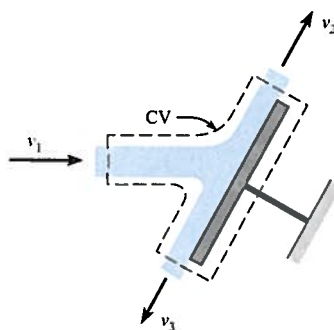

FIGURE 6.13
A **vane** is a structural component, typically thin, that is used to turn a fluid jet (Fig. 6.13). A vane is used to idealize many components of engineering interest. Examples include a blade in a turbine, a sail on a ship, and a thrust reverser on an aircraft engine.
- **Tip 2.** Let each momentum flow equal $\dot{m}v$. For example, in Fig. 6.13, the momentum inflow is \dot{m}_1v_1 . The momentum outflows are \dot{m}_2v_2 and \dot{m}_3v_3 .
- **Tip 3.** If the vane is flat, as in Fig. 6.13, assume that the force to hold the vane stationary is normal to the vane because viscous stresses are small relative to pressure stresses. Thus, the load on the vane can be assumed to be due to pressure, which acts normal to the vane.
- **Tip 4.** When the jet is a free jet, as in Fig. 6.13, recognize that the jet does not cause a net force at the control surface because the pressure in the jet is atmospheric. Only pressures different than atmospheric cause a net force.